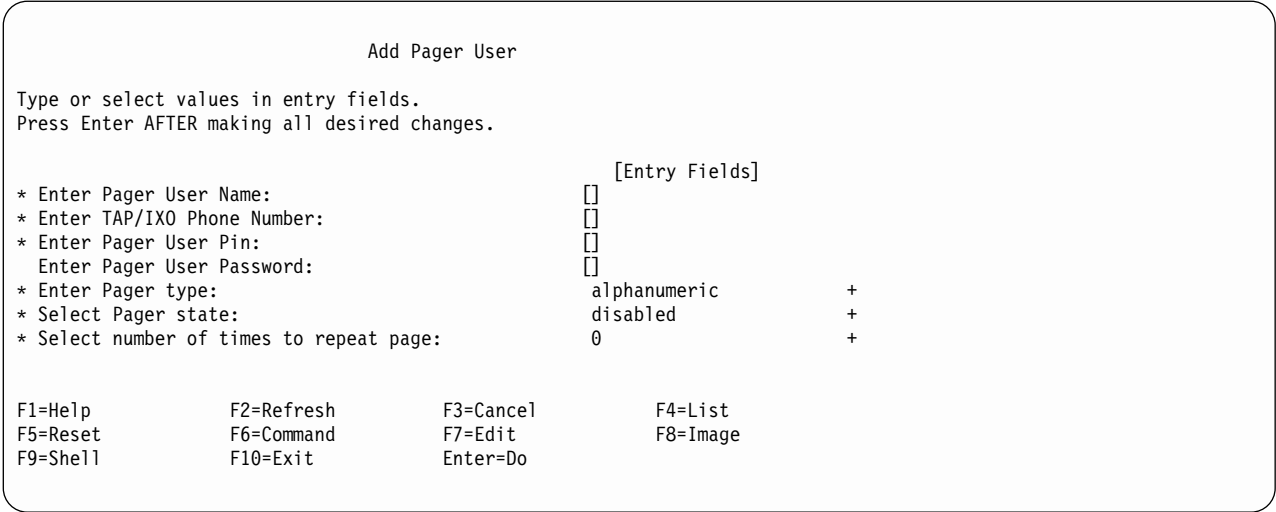

Figure 11-39. Add Pager User
- 2) **Add a Pager User** see Figure 11-39 on page 11-66 and follow on screen directions.